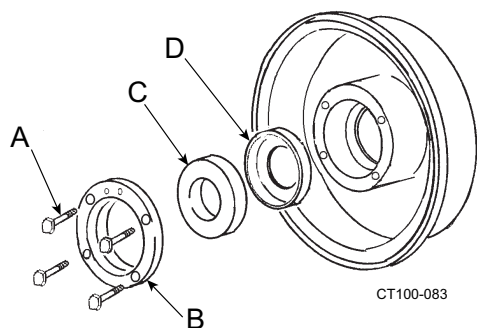

Figure 29 - Stationary Seal Assembly
1. Lightly lubricate both sides of the L-gasket (Figure 29, item D) with a sanitary lubricant and insert it into the backplate seal cavity.
2. Place the stationary seal into the L-gasket (Figure 29, items C and D).
3. Place the seat retainer over the stationary seal and secure the retainer with four 1/4-20 x 1/2 inch hex head cap screws (Figure 29, items B and A).